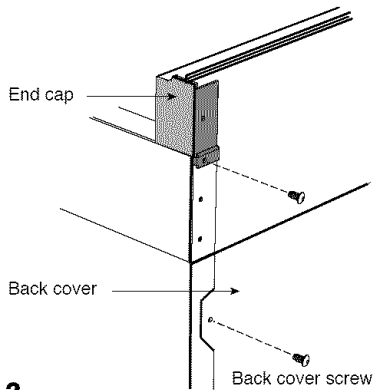

Figure 12
- 1 Remove screw from the cooktop back frame end cap on both sides and screw from range back cover on both sides, as shown in Figure 12.